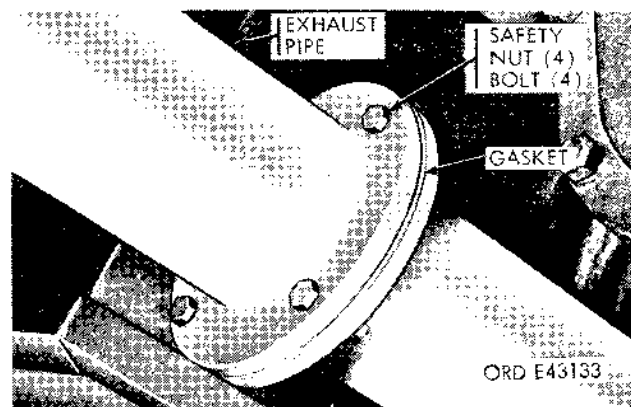

Figure 2-119. Removing front exhaust pipe.
(3) Remove the four safety nuts and bolts securing the flange of the front exhaust pipe to the flange of the center exhaust pipe, and remove the front exhaust pipe and gasket (fig. 2-119).